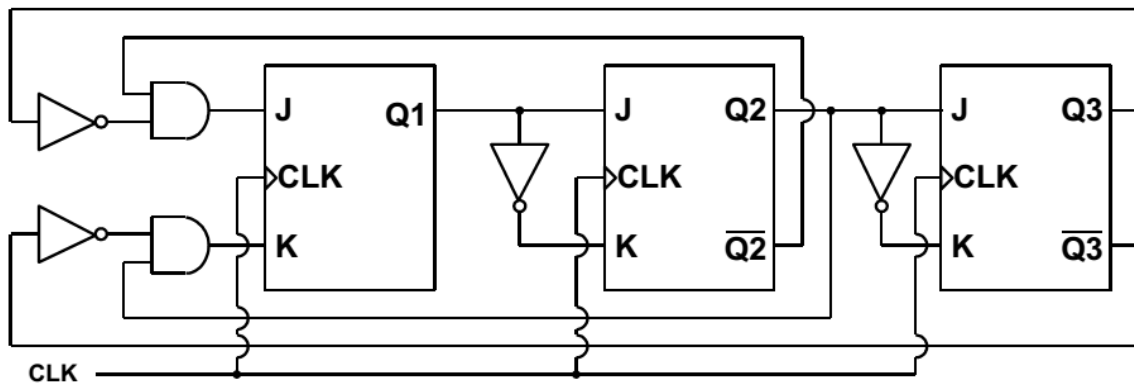

Figure 8.1 The schematic of the circuit which is mentioned in II.2
- 2.** Figure 8.1 shows a circuit constructed with elementary gates and JK flip-flops, in which all of the flip-flops are positive edge triggered. **Write down** the present states of $Q_{1,n}$, $Q_{2,n}$, and $Q_{3,n}$ in terms of the previous states $Q_{1,n-1}$, $Q_{2,n-1}$, $Q_{3,n-1}$. **Prepare** a table showing the state of the circuit after each clock pulse, starting from the state (1, 1, 1).